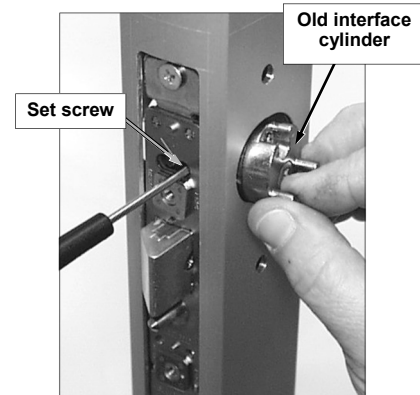

Fig. 5: Loosen set screw before removing the old interface cylinder (if present)
5. **Loosen the set screw, then remove the outside cylinder** (if present—See Fig. 5).